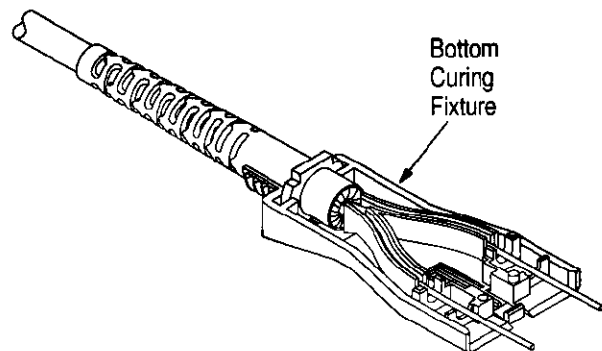
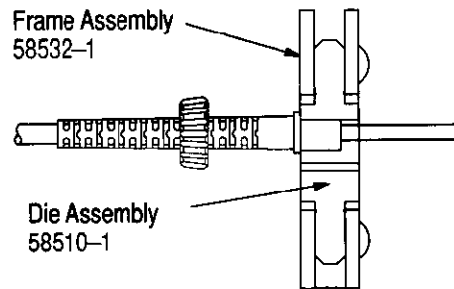

Figure 9
Figure 18
**NOTE** Shown in Figure 9, the 1.85 to 1.88 dimension is the BUFFER strip length tolerance.
2. Clean the fibers with an alcohol pad (or lint-free tissue dampened with isopropyl alcohol) and place the strain relief and fibers in the bottom curing fixture as shown in Figure 9.
Crimp the outer crimp ring using PRO-CRIMPER II Hand Tool Assembly. See Figure 18. Be careful not to let the strength members or the inner crimp ring slide out of position.
- Changed "after crimping" to "after crimp ring is positioned" in Figure 9.
- Added Paragraph 4.3, Crimping and moved old Figure 9 to Figure 18.